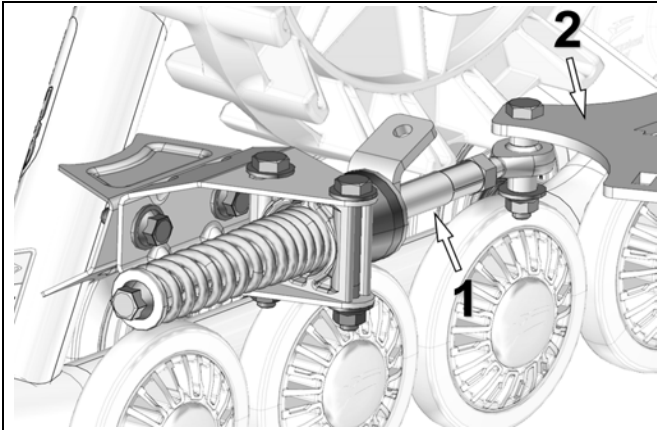

Figure 12
- Stabilizing arm (1) must be attached to the rear anchor bracket (2) installed on the vehicle. See Figure 12.